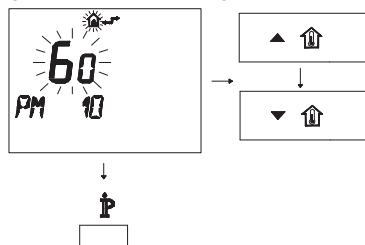

Fig. 7.42
- To modify the programmed SET, act on buttons ▲⏏ or ▼⏏ and wait for the number programmed to flash (Fig. 7.42).